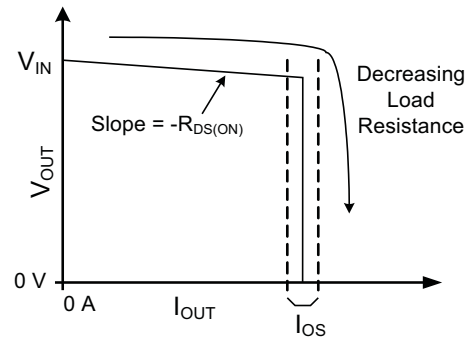

Figure 7. Output Characteristic Showing Current Limit
| $I_{OS}^{(2)}$  | Current-limit, See Figure 7     | 0.5A rated output   | TPS20xxC   | 0.67 | 0.85 | 1.01 | A |
| $t_{IOS}$ Short-circuit response time (3) | $V_{IN} = 5\text{ V}$ (see Figure 7),One-half full load $\rightarrow R_{SHORT} = 50\text{ m}\Omega$ ,Measure from application to when current falls below 120% of final value |            | 2    |      | $\mu\text{s}$      |          |